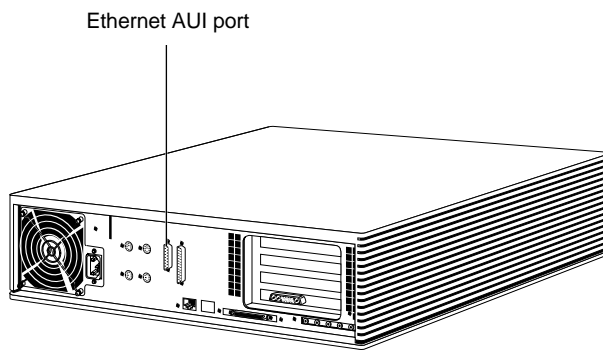

Figure 2-16 Ethernet AUI Port
2. Attach the Ethernet cable to the Ethernet port on the back of the Indigo² IMPACT workstation, as shown in Figure 2-16.